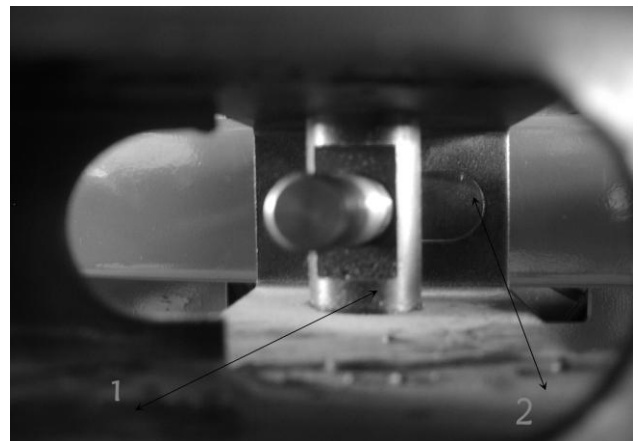

Fig 4-7
4.2.8 Insert the piston rod from the hole of the bead breaker slide bushing (Fig4-7-1). The plane of the slide bushing face outwards (Fig4-7). Screw the screws detached into the front end of the piston rod.